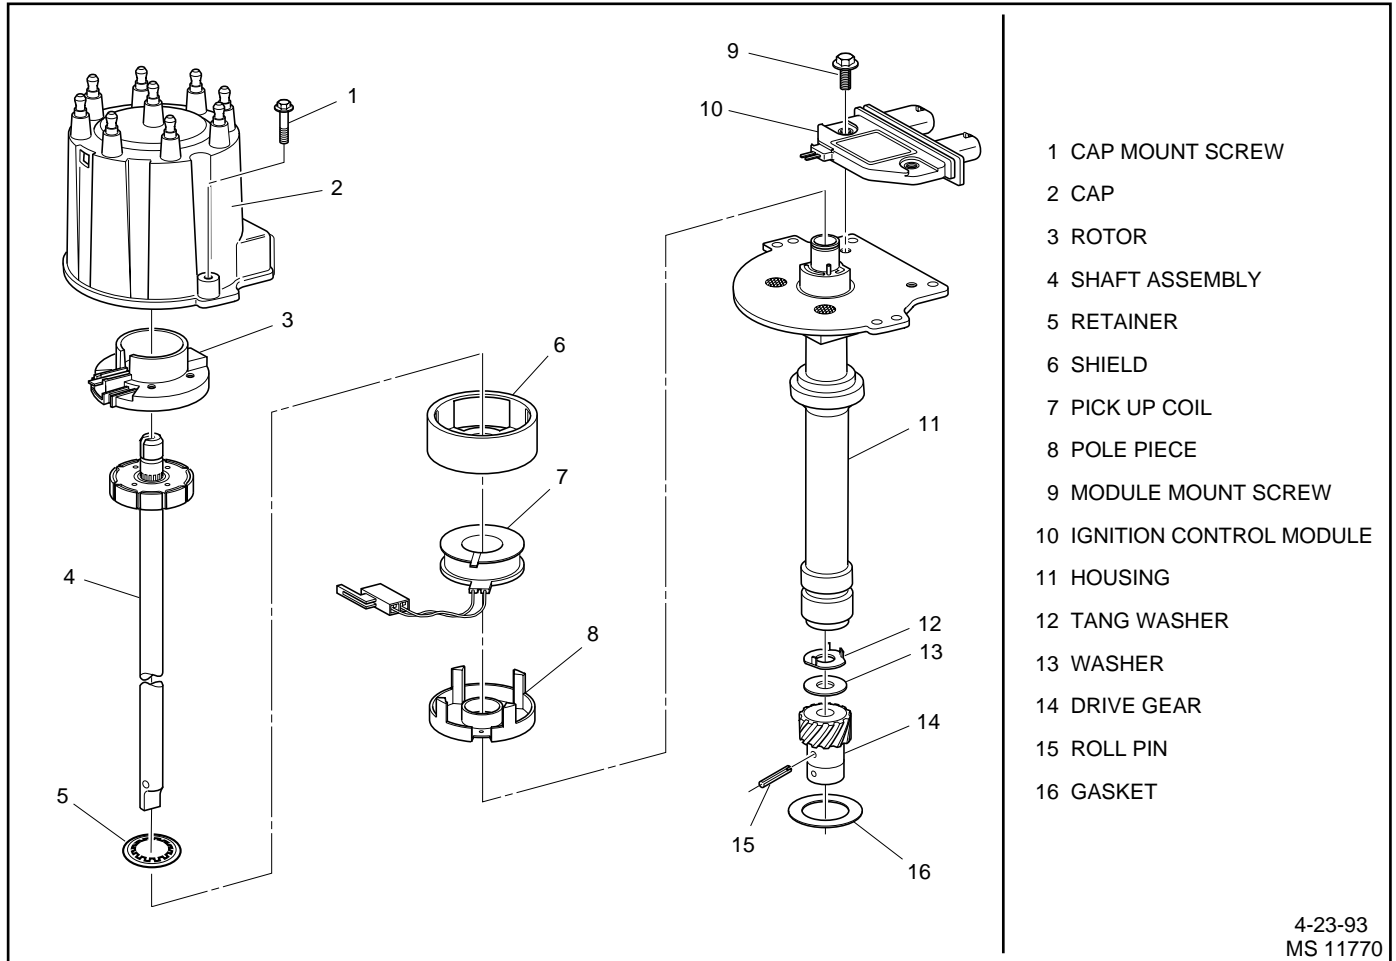
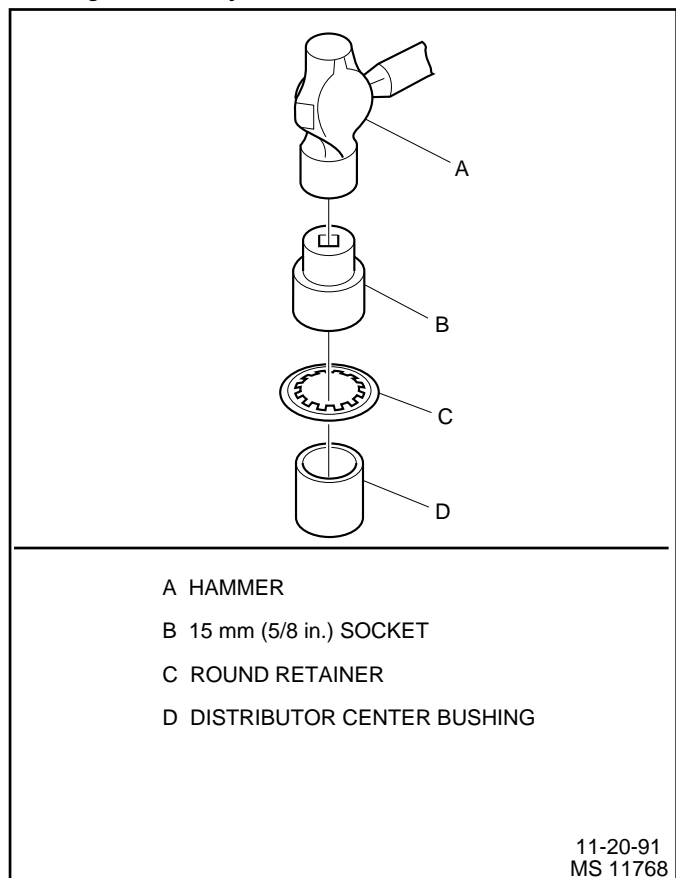

Figure 4-7 - Eight Cylinder Engine Distributor Components
Figure 4-10 - Retainer to Shield Installation
**Assembly***Figures 4-7 and 4-10***Install or Connect**
1. Ignition control module (10) to the housing (11) with two screws.
2. Pick-up coil (7).
4. Shield (6) onto the pick-up coil.
5. Retainer (5) onto the housing (Figure 4-10).
6. Shaft assembly (4) onto the housing (11).
7. Tang washer (12), washer (13) and drive gear (14) onto the bottom of the shaft.
8. Roll pin (15) into the gear.
9. Rotor (3) onto the shaft (4).